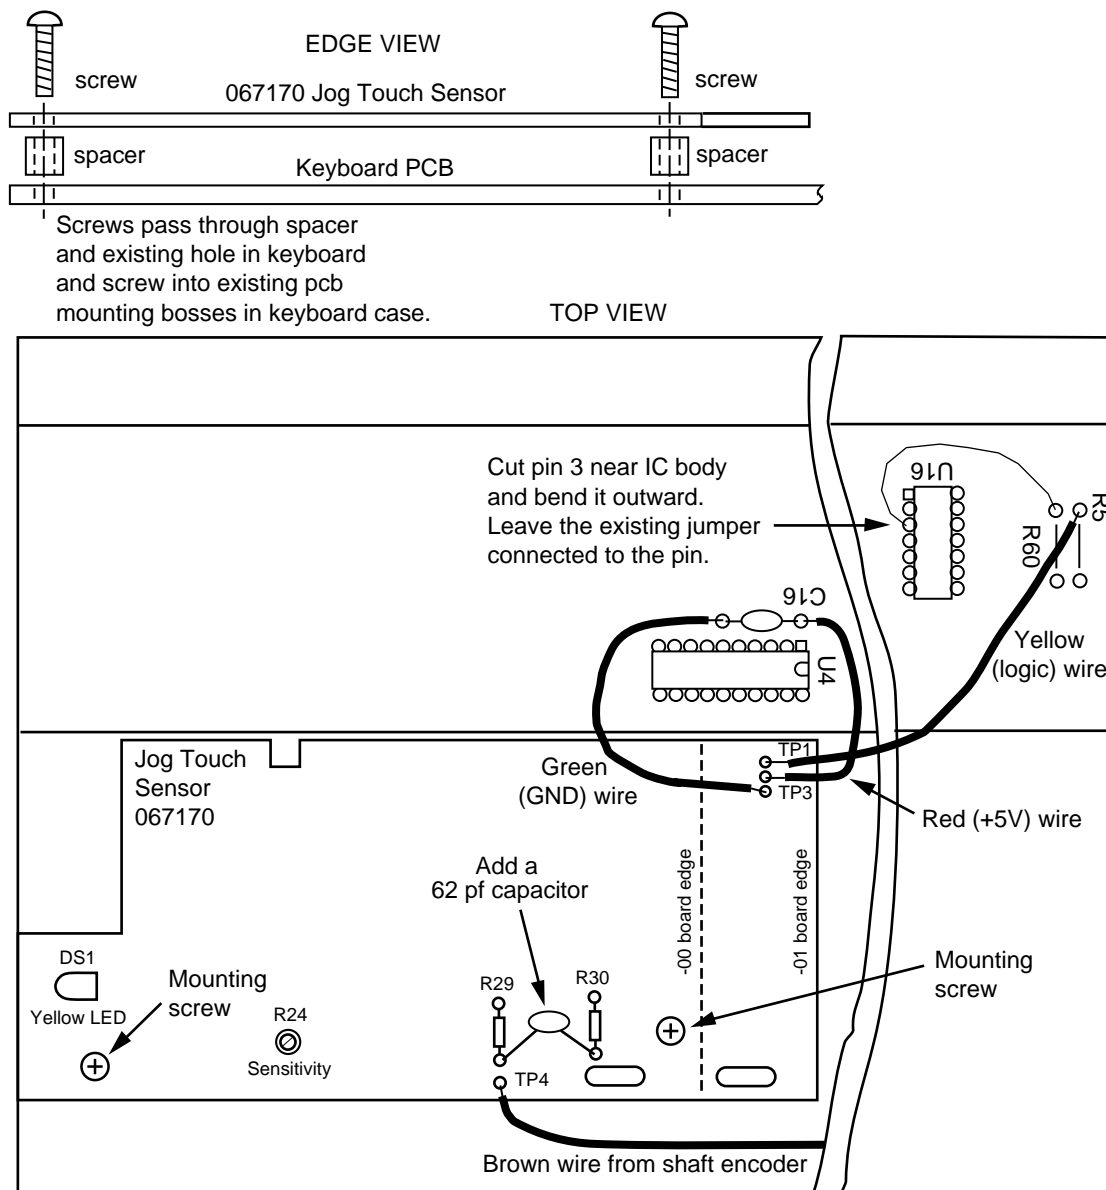

Figure 1. Locations of Modifications
3. On the small pc board inside the keyboard case, cut pin 3 of IC U16 close to the body of the IC, leaving the jumper wire connected to that pin intact. Bend the pin outward slightly to pull it away from the body of the IC, being sure the jumper remains connected. See Figure 1.
4. Mount the new 067170-00 Jog Touch Sensor module onto the main pc board as shown in Figure 1 using the screws and spacers provided. To do so, you must remove the two existing lower left screws that hold the main pc board to the case and mount the new module in place of the removed screws.
6. Solder a 62 pF capacitor between R29 and R30 on the Sensor module (Fig. 1).